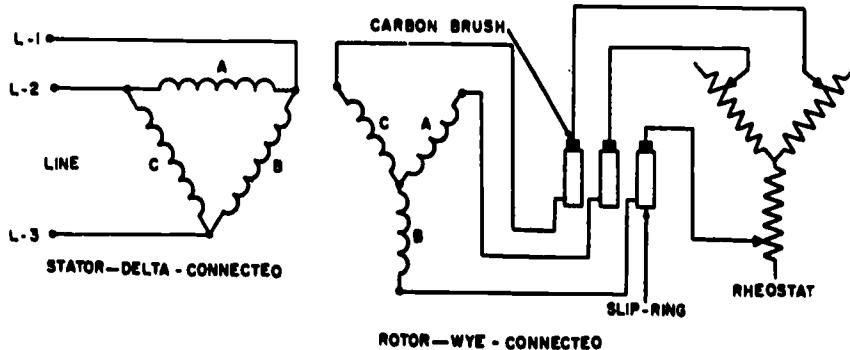

Fig 4-40. Schematic of a three-phase slipring induction motor.
The THREE-PHASE AC INDUCTION MOTOR is also called a squirrel cage motor. The rotating magnetic field of the three-phase motor operates in the same manner as a two-phase motor. The difference between a two-phase and a three-phase motor is in the windings. The two-phase windings are placed 90° apart where, the three-phase windings instead are placed 120° apart. This means that the currents that produce the magnetic field reach a maximum $1/180$ second apart in a 60 cycle circuit. Notice figure 4-40 which shows the connection of a wye connected stator in a three-phase induction motor. The rotor of the motor is represented by the compass needle, which points in the direction of the magnetic field and revolves as the magnetic field revolves. The individual current waves are shown along the phase wires as they actually are during operation. Notice the current in phase A reaches a maximum at position 1 and at that instant the currents in phases B and C are both negative.
The three-phase slipring (wound rotor) induction motor is wound with a three-phase drum winding. The winding are connected WYE (Y) or DELTA (a wye connection is shown in figure 4-40), and the three leads are brought out and connected to three electrical contact rings (sliprings) which are secured to the shaft. Brushes riding on the rings are connected to an external resistance through which the rotor circuit is completed. Motors containing wound rotors have a high starting torque with low starting current plus adjustable speed.